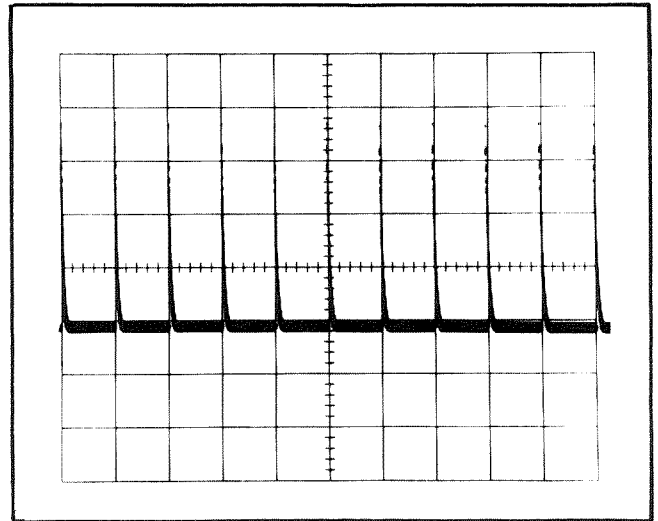

Fig. 5-6. CRT display showing correct 5  $\mu$ s timing.
c. CHECK—CRT display for one marker each division between the second and tenth vertical lines. Check that sweep timing is within 0.16 division (2%) over the center eight divisions. See Fig. 5-6.